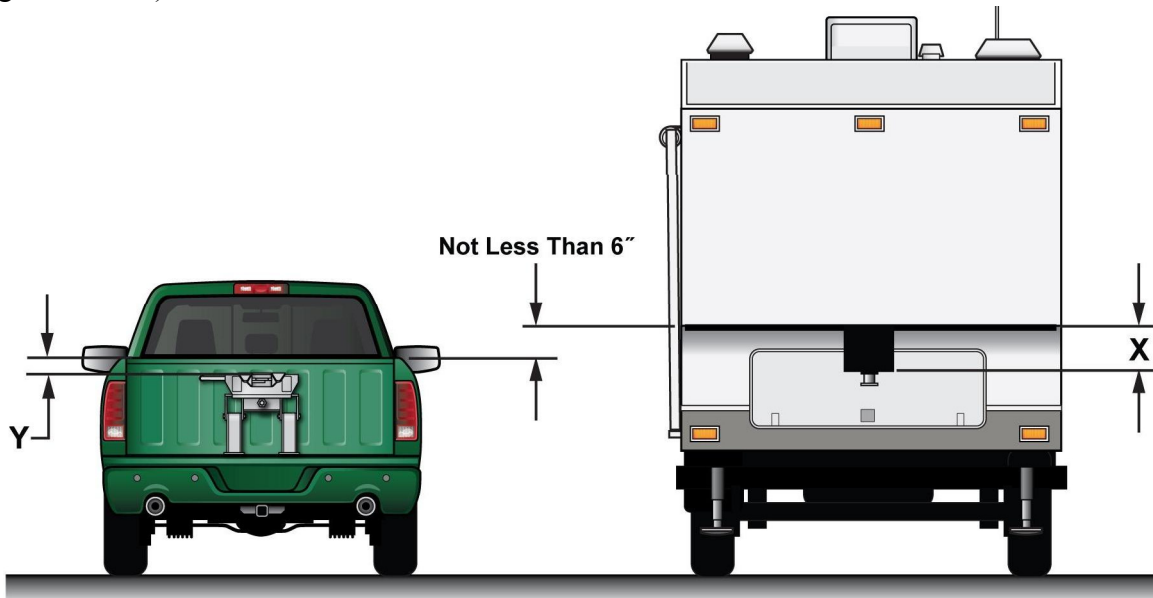

Figure 1
1. Verify that the cross member is set at the proper height to provide a minimum of 6" clearance between the bottom of the trailer nose and the top of the truck bedsides, and allows for a level-towing attitude of the 5th Wheel Trailer (See Figure 1 below).
With top face of head level measure up to top of pickup box (dimension Y in Figure 1). On the trailer measure up from the face of the pin box to the underneath of the trailer (dimension X in Figure 1). Measurement X less measurement Y gives the amount of clearance between the top of the pickup box and the underneath of the trailer.